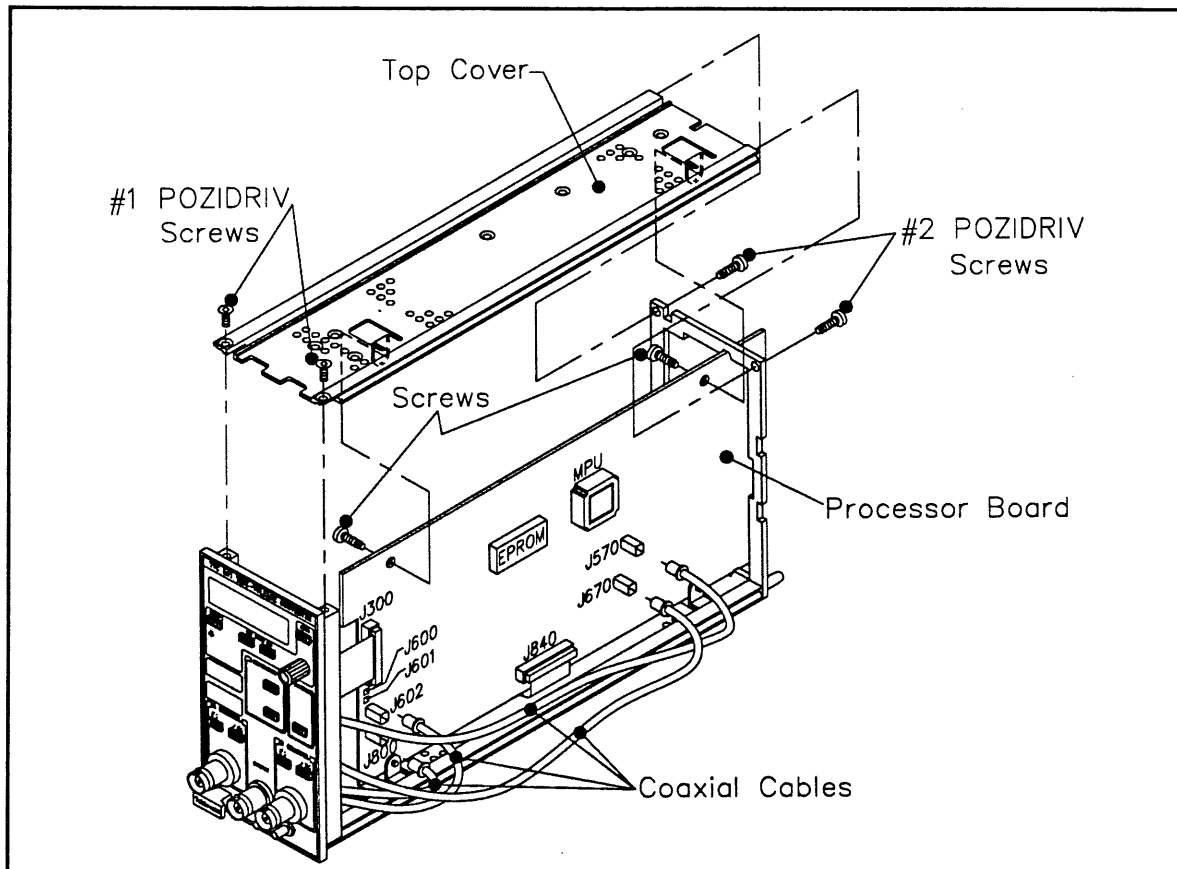

Figure 5-5. Removing the Processor Board.
3. On the processor board, disconnect the coaxial cables at J602, J800, J570 and J670 as shown in Figure 5-5.